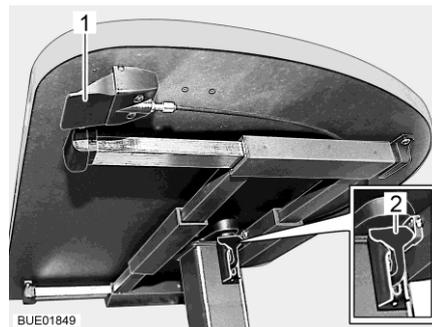

Fig. 79 Lift-off table with release button
- Pull or press down the catch lever (Fig. 79,2).
- Press the catch lever (Fig. 79,2) upwards.
- Press the release button (Fig. 79,1) and hold it down. The table top moves automatically upwards to the limit stop.
- Release the release button (Fig. 79,1). The table top remains in the desired position.
- Press the release button (Fig. 79,1) and hold it down.
- Release the release button (Fig. 79,1). The table top remains in the lowest position.